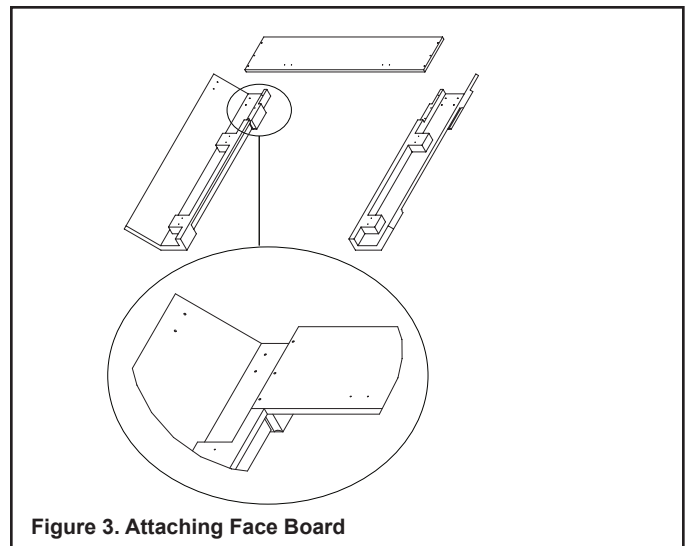

Figure 3. Attaching Face Board
3. Attach face board to the legs. See Figure 3.